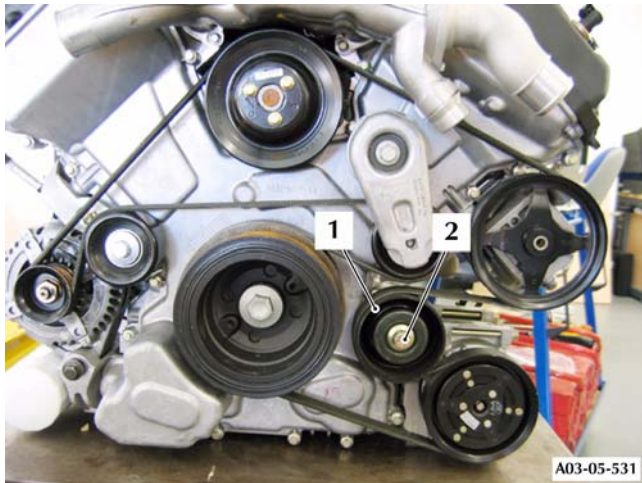

Figure 1
4. Release the tensioner and remove the belt from the idler (see Figure 1).